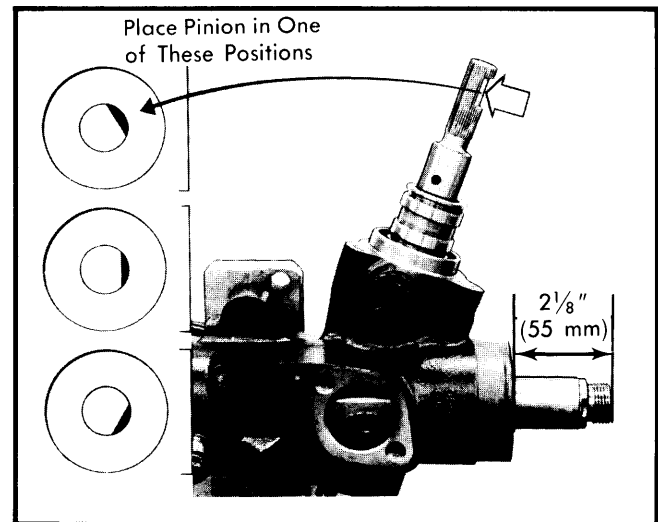

Fig. 4 Positioning Rack Rod Pinion.
7) If removed, install inner race for pinion lower bearing. Pack pinion gear with lubricant. Install rack rod in housing. With pinion in place, rack should protrude $2\frac{1}{8}$ " (55 mm) from housing when flat of lockbolt is in positions shown. See Fig. 4